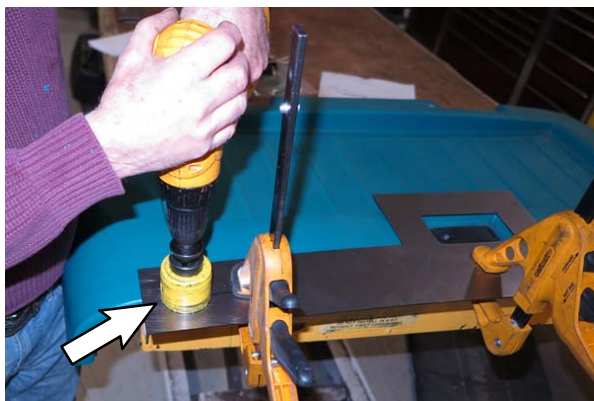
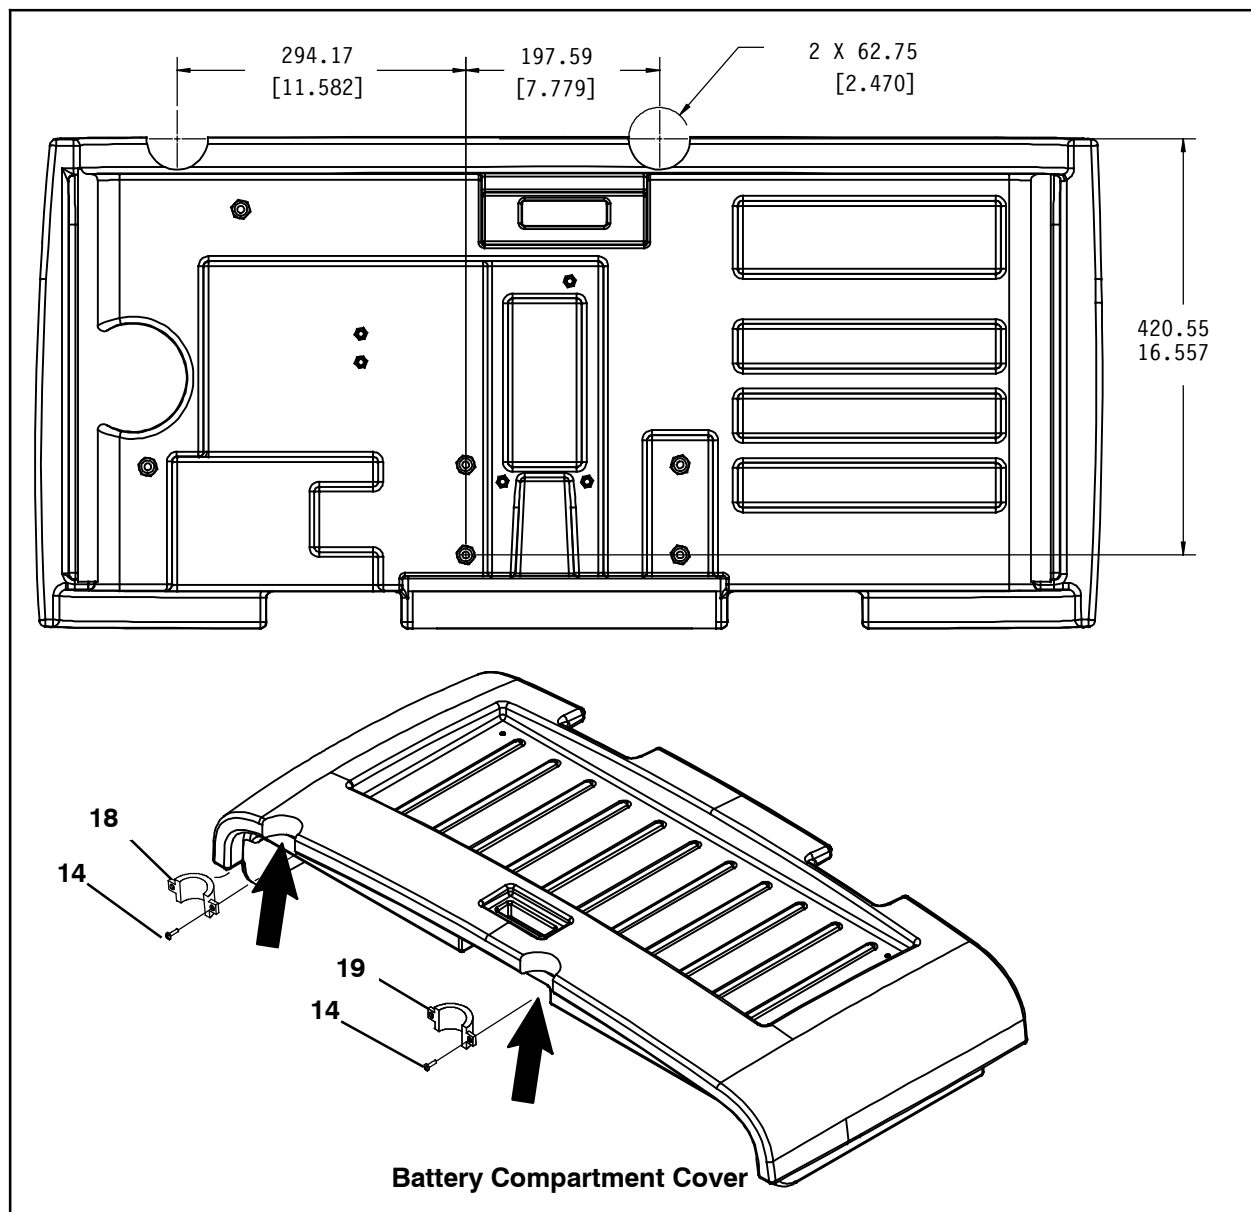

FIG. 3
FIG. 8
5. Drill two holes through the battery compartment cover by using a 2-1/4" dia. hole saw or jigsaw. (Fig. 3 / Fig. 8)
11. Insert the right OHG trim cover (18) and left OHG trim cover (19) into the areas cut to check for fit. If necessary, cut additional material from battery compartment cover so the covers fit. (Fig. 8)
12. Use two pan screws (14) to trim covers onto the battery compartment cover. (Fig. 8)